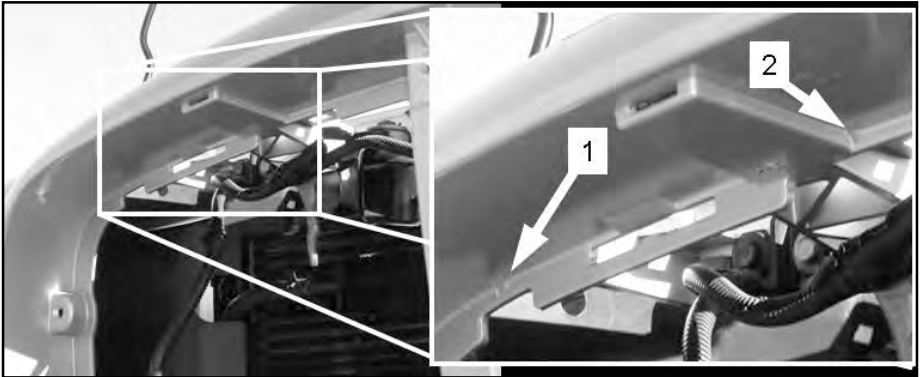

Figure 15. Example of location of bumper holes. **Note: Tabs on grille frame are not symmetrical!**
5.2) Modify the bumper to accept the grille frame. Insert the grille frame into the bumper opening and note the location of the frame holes relative to the bumper. Drill holes in the lip of the bumper in these locations as shown in **Fig. 15**.